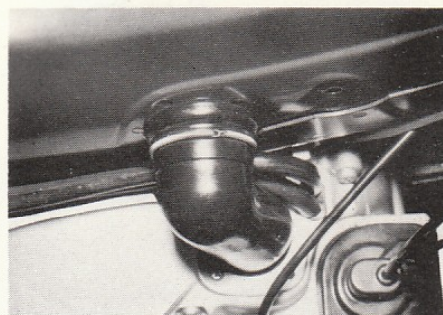

Fig. 3-2
2. Remove the air cleaner joint rubber band. (Fig. 3-2)